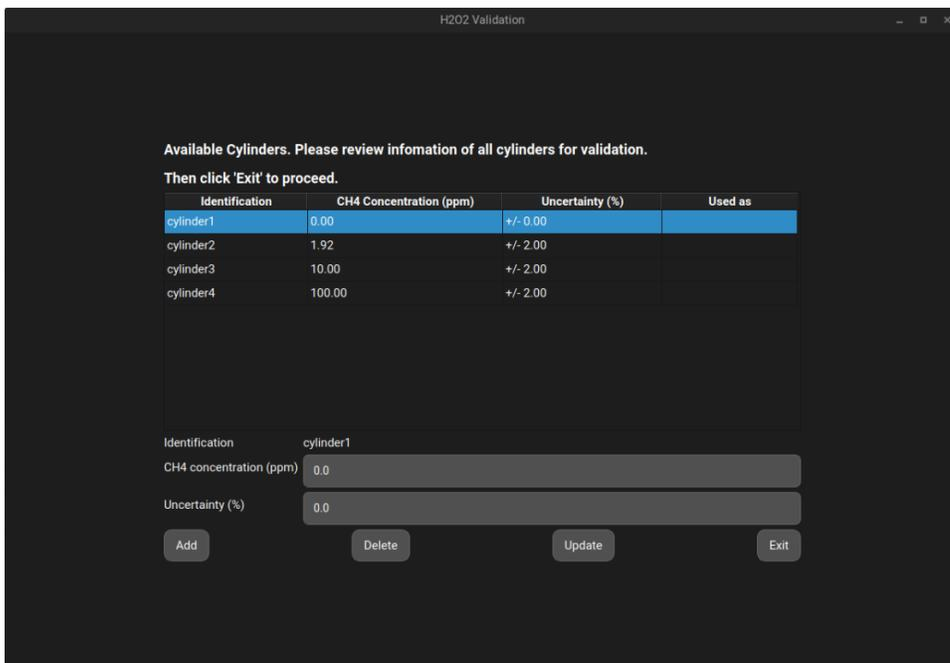

Figure 50 - Edit Cylinders
5. Click **Next**. The first-time validation is run, this will display the *Edit Cylinders* page (Figure 50 - Edit Cylinders). Use this page to specify the concentrations and uncertainties of the cylinders being used in this procedure. See Table 12 - Cylinder Button Functions for action definitions. On subsequent uses, the system will remember the saved values and skip directly to the Zero-Air Measurement step.